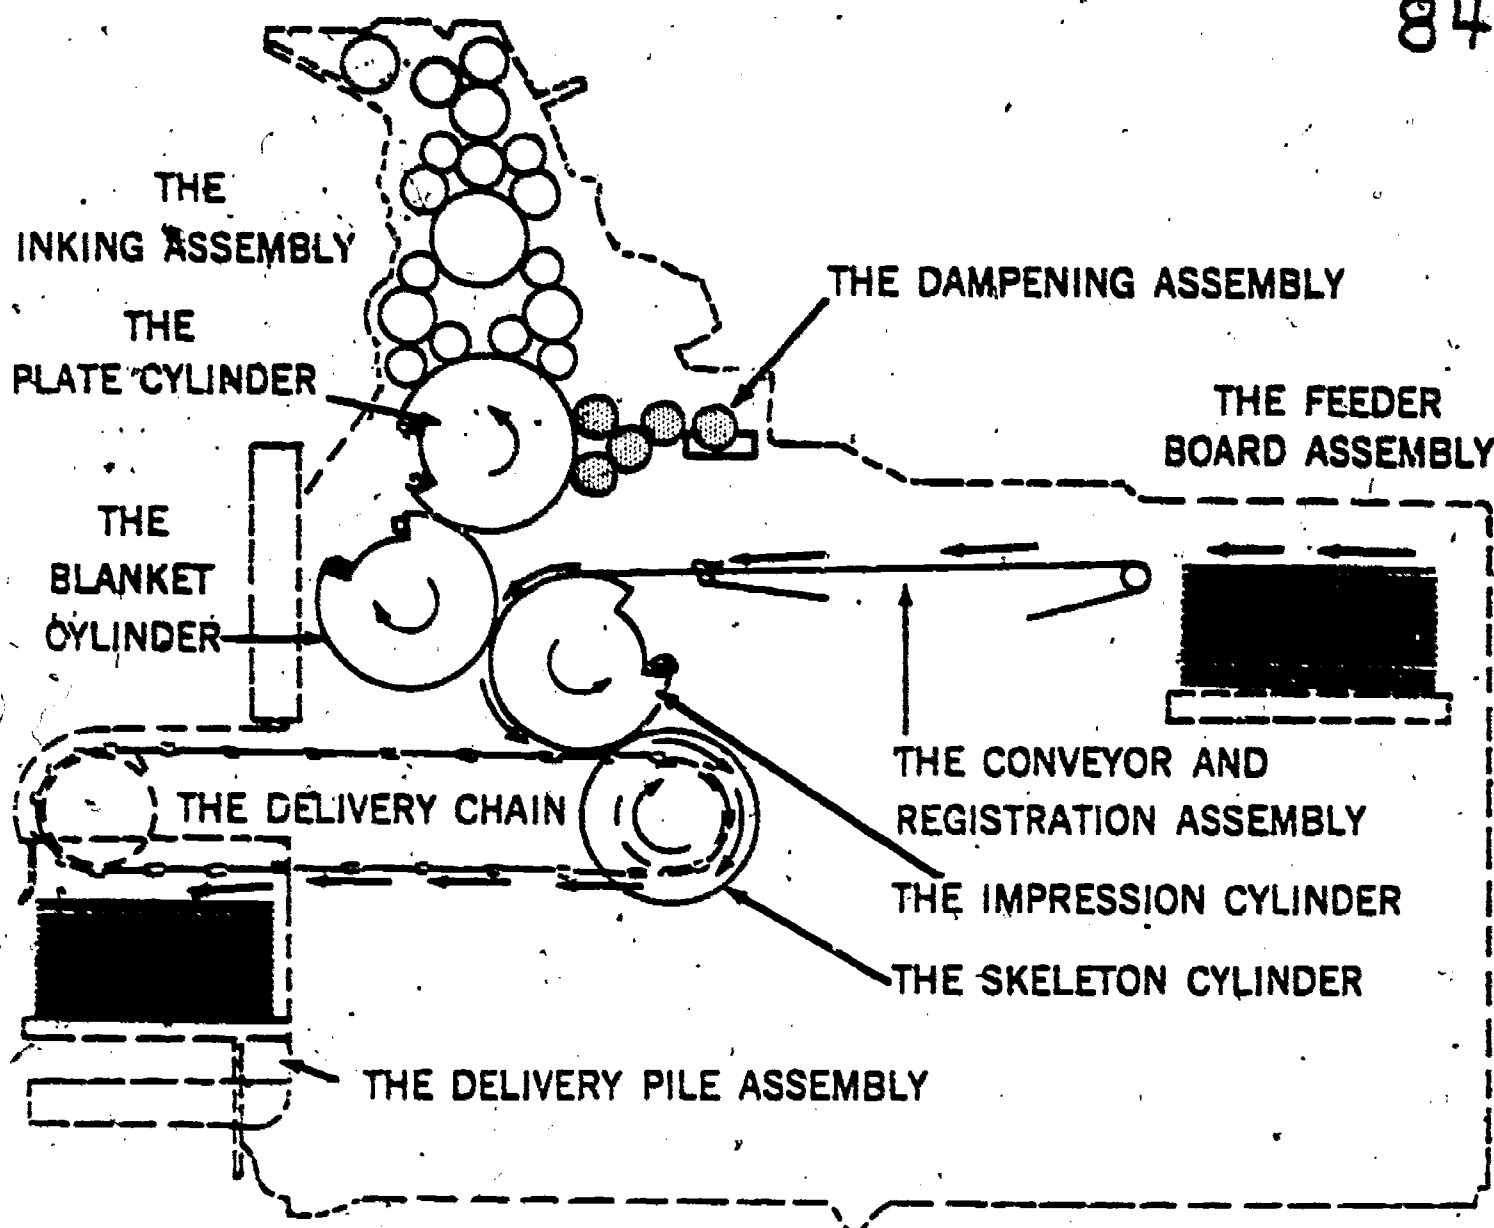

Figure 8-4. A schematic diagram of a typical offset press.
b. The operation of the offset lithographic press may be divided into two basic cycles, the printing or image cycle, in which the image is transferred from the plate to the blanket cylinder, and the paper cycle, in which the paper is moved from the feeder pile, through the press to receive the image from the blanket cylinder, and is then stacked at the delivery end of the press (fig. 8-4). The major parts and assemblies which accomplish these cycles are as follows: